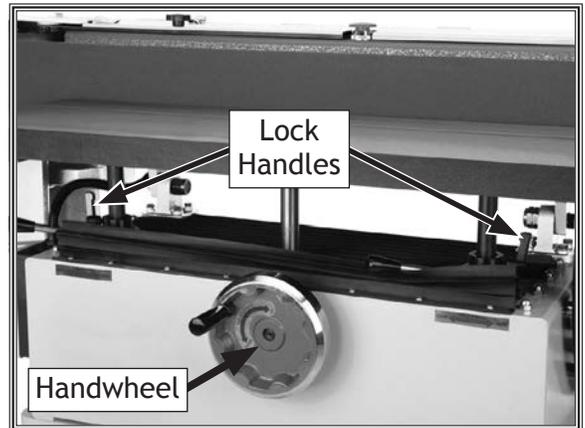

Figure 19. Height adjustment controls.
2. Turn table height adjustment handwheel shown in **Figure 19** clockwise to raise table or counterclockwise to lower table.